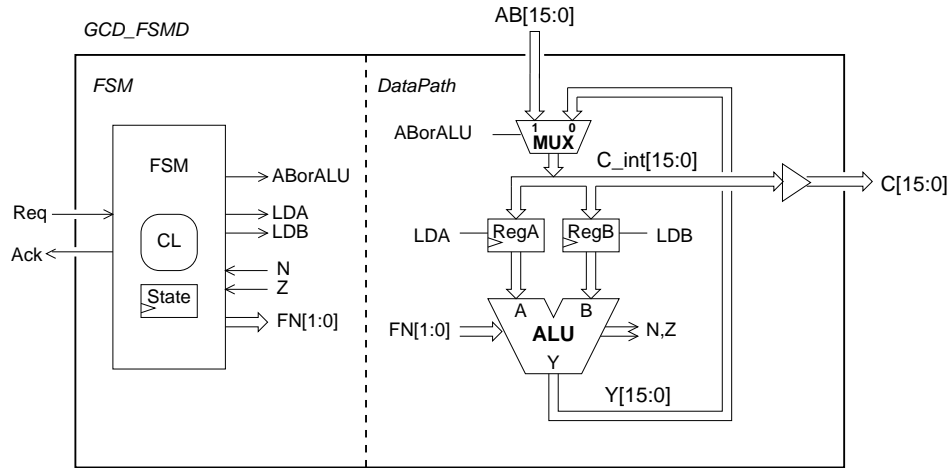

Figure 2: A *possible* FSMD-style implementation of the GCD-module, using two registers and one ALU.
Looking at the algorithm, it is obvious that a possible implementation could involve a finite state machine controller and a datapath containing two registers (`A` and `B`), an ALU, and one or more busses/multiplexors to implement the required signal flow. One example of such a possible FSMD-style (Finite State Machine with Data-path) implementation is shown in Figure 2 and Table 1.
- Assume that the data-path is implemented as shown in Figure 2, that A, B, and C are 16-bit unsigned integers, and that the technology primitives available on the FPGA are D-flip-flops and 6-input LUT's. Estimate how many flip-flops and LUTs are needed to implement the data-path? Briefly explain your estimate. Hint: this is not a difficult question – you do not need to perform a detailed implementation, a LUT can implement *any* 6-input Boolean function.
Let us now continue the design of the GCD module, and let us aim for a simple implementation using a finite state machine controller and a datapath with the smallest possible amount of hardware resources: one ALU, two registers (for A and B), and some selection circuitry to provide data-pathways between these resources. Such a datapath was introduced previously and shown in Figure 2.